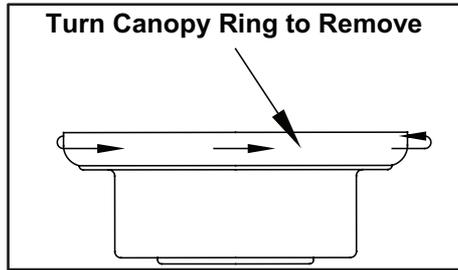

Figure 5
1. Remove the canopy from the canopy by turning the ring clockwise until it unlocks. (Figure 5)
1. Remove the canopy ring from the canopy by turning the ring to the right until it locks. (Figure 5)